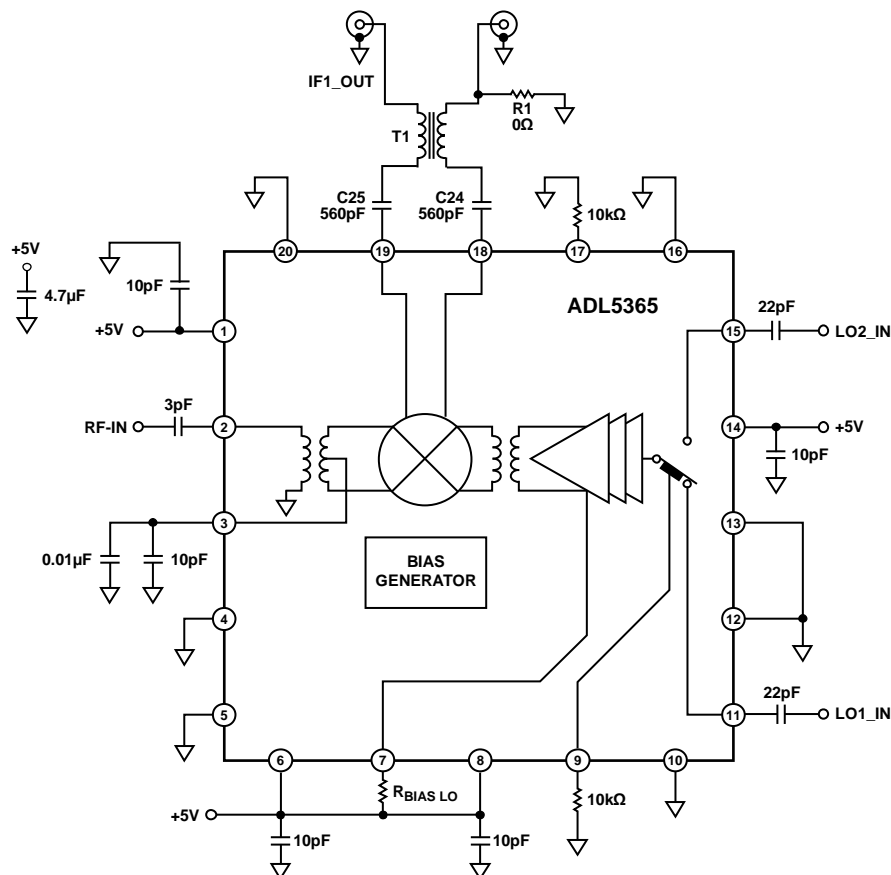

Figure 50. Typical Application Circuit
The ADL5365 mixer is designed to up- or downconvert between radio frequencies (RF) from 1200 MHz to 2500 MHz and intermediate frequencies (IF) from dc to 450 MHz. Figure 50 depicts the basic connections of the mixer. It is recommended to ac-couple RF and LO input ports to prevent non-zero dc voltages from damaging the RF balun or LO input circuit. The RFIN capacitor value of 3 pF is recommended to provide the optimized RF input return loss for the desired frequency band.